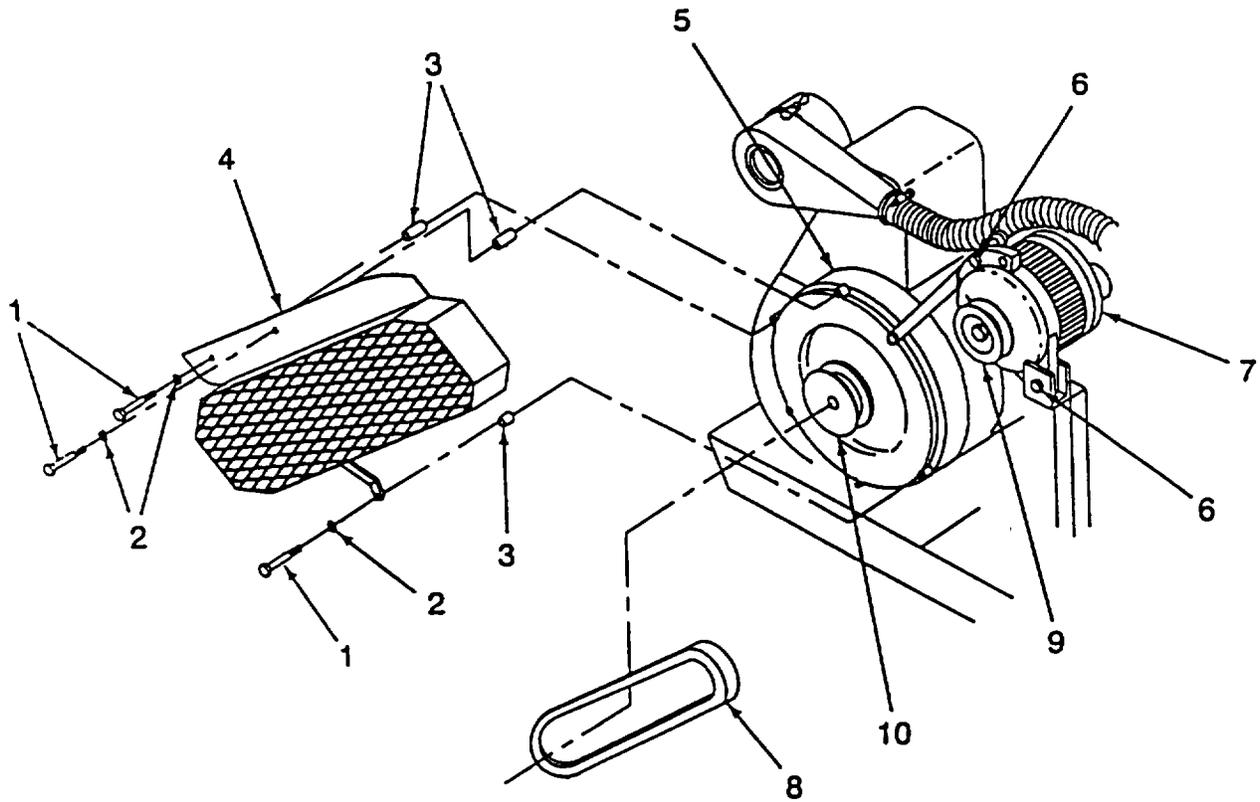

Figure 4-22. Alternator Belt
## (1) Removal. (Refer to Figure 4-22).
- (a) Remove three cap screws (1), three lockwashers (2), and three spacers (3) from alternator belt guard (4). Discard three lockwashers (2).
- (b) Remove alternator belt guard (4) from engine housing (5).
- (c) Loosen two cap screws (6) from alternator (7).
- (d) Slide alternator (7) forward to loosen alternator belt (8).
- (e) Remove alternator belt (8) from alternator pulley (9) and engine pulley (10).